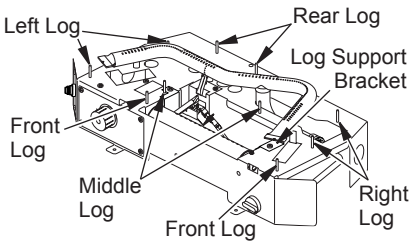

Figure 17 - Log Alignment Screws
1. Place middle log (#1) onto log alignment screw located near the center of base, and in place over log support bracket as shown in Figures 17 and 18.
5. Place rear log (#5) onto two alignment screws to the rear of base (see Figures 17 and 19).